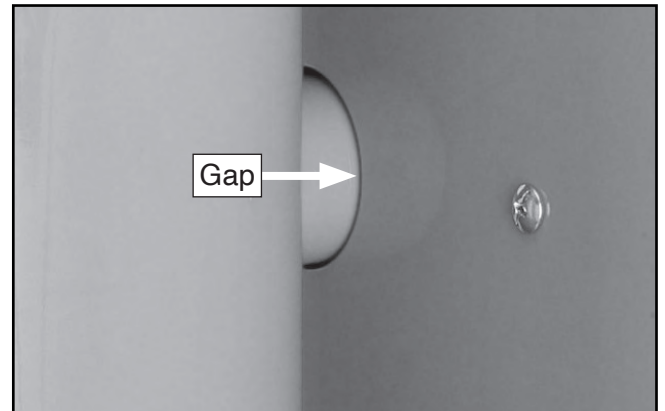

Figure 11. Dust collector suction port.
- Using silicone (not supplied), seal gap between suction port and hole in cabinet wall (see **Figure 11**).